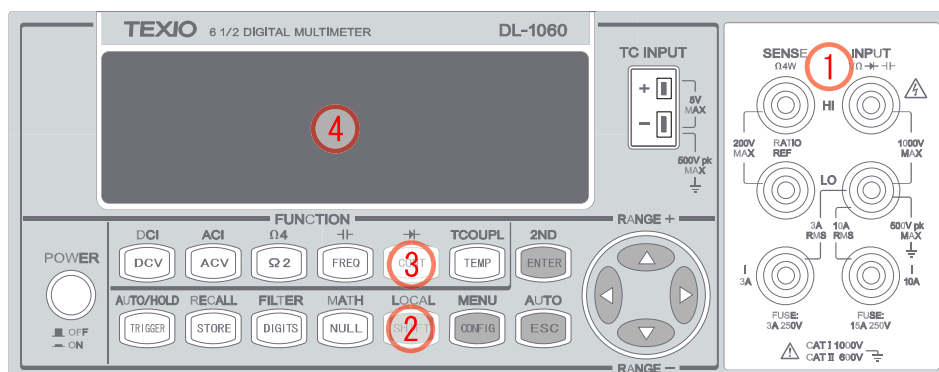

Figure 2-9
1. Connect the diode to the terminals. For forward bias, connect the probe from input terminal "HI" to the positive end of the diode, and connect the probe from input terminal "LO" to the negative end of the diode as shown in **Figure 2-9**.